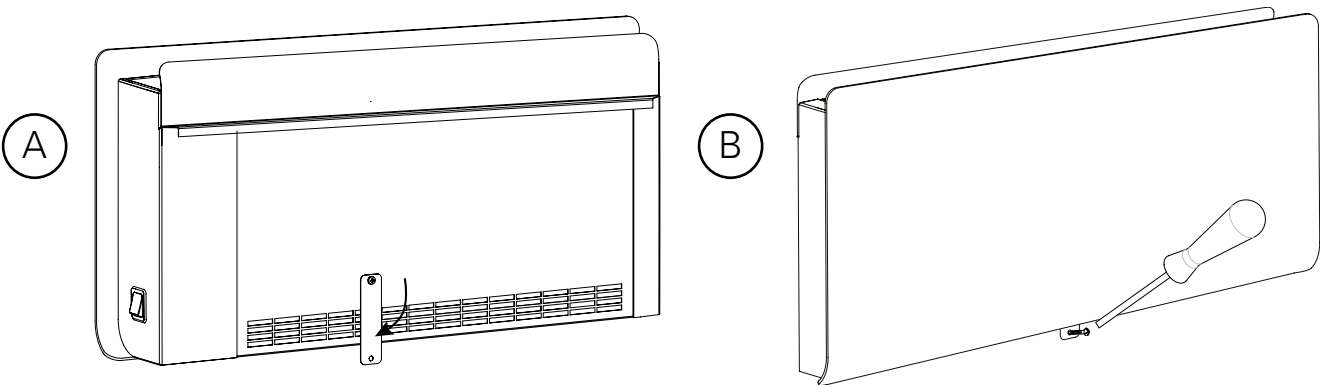

Fig. 4: Fastening with lockplate
3. Rotate the lock plate (Fig. 4) and fasten with a screw in the wall, so that the fan convector is mounted securely.